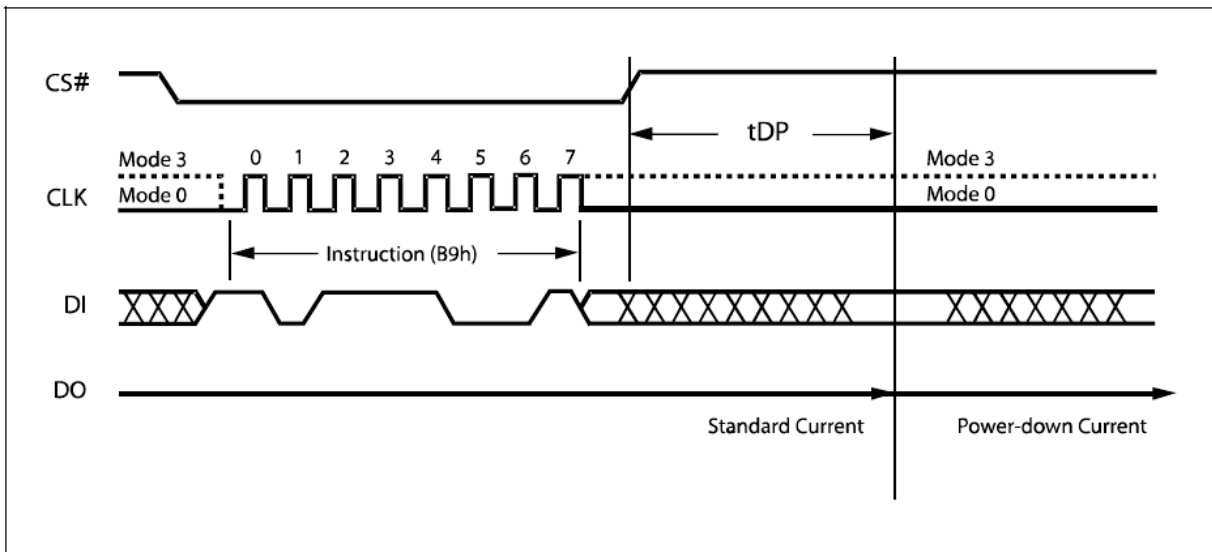

Figure 33. Deep Power-down Instruction Sequence Diagram
The instruction sequence is shown in Figure 33. Chip Select (CS#) must be driven High after the eighth bit of the instruction code has been latched in, otherwise the Deep Power-down (DP) instruction is not executed. As soon as Chip Select (CS#) is driven High, it requires a delay of t_{DP} before the supply current is reduced to I_{CC2} and the Deep Power-down mode is entered.